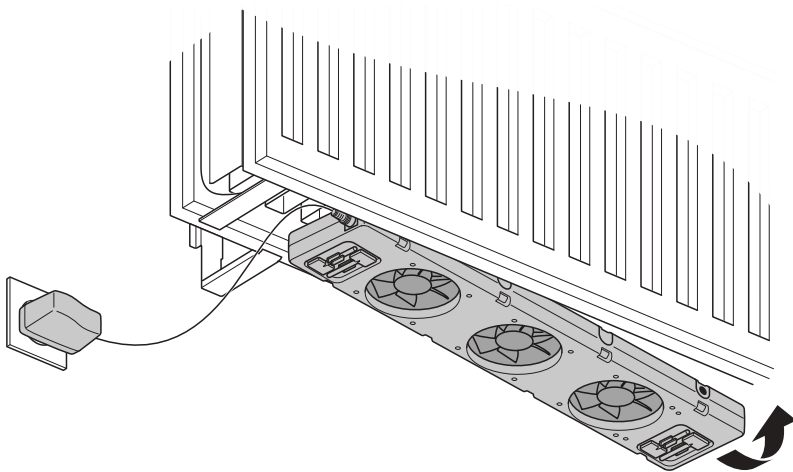

Fig. 2 - Attach the SpeedComfort (A).
2. Identify a space where the radiator wall brackets and connecting clips are not in the way. Attach the **SpeedComfort** (A) at the bottom between the radiator plates with the **adjustable magnets** (B) (see fig. 2). The **SpeedComfort** (A) can also be attached on top of the radiator and under a cover. **NOTICE** Make sure the **fans** still face upwards!